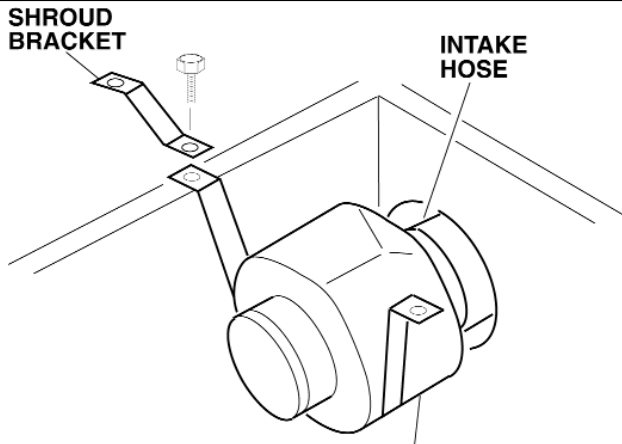

fig. 3
- 4) Reinstall the resonator chamber to the intake hose. (see fig 3.)